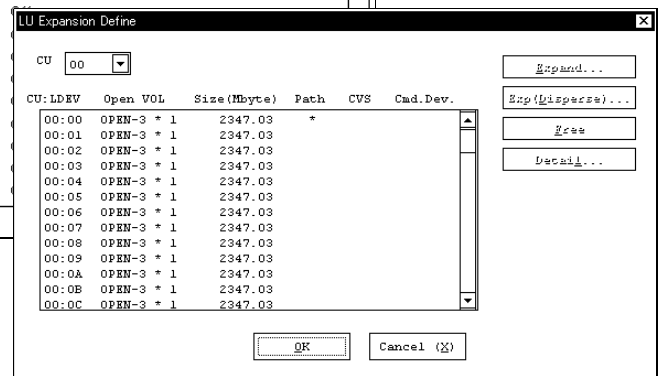

Figure 9.2
- ② Since the LU Expansion Define window (Figure 9.2) is displayed, set each items and select (CL) the [OK] button.